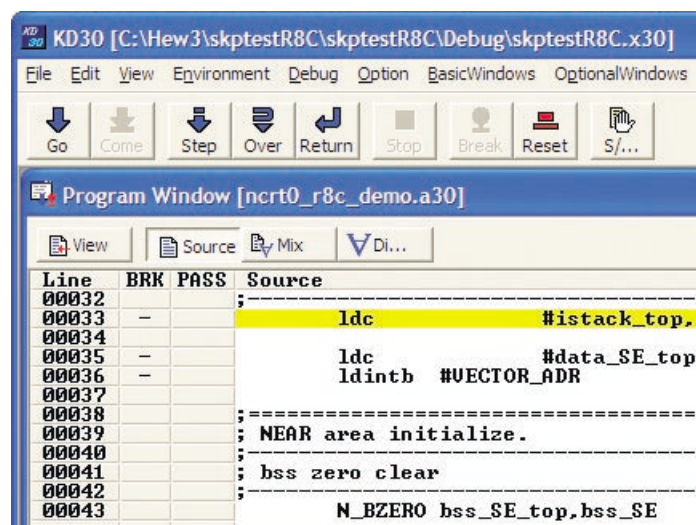

Figure 5. KD30 Program Window after download of skptestr8C
- d) After initialization, the KD30 Program Window will appear, and our program, "skptestr8c.x30" is automatically downloaded. The KD30 Program Window should look like Figure 5.